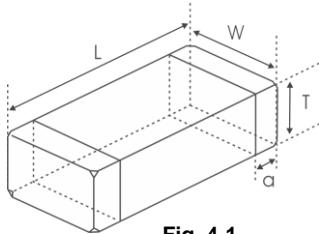
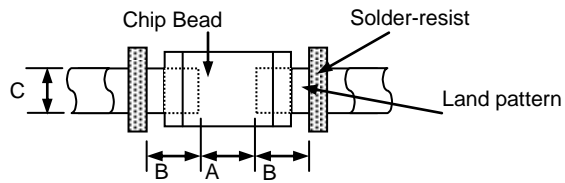

Fig. 4-1
Fig. 4-2
- 1) Dimensions and recommended PCB pattern for reflow soldering: See **Fig.4-1**, **Fig.4-2** and **Table 4-1**